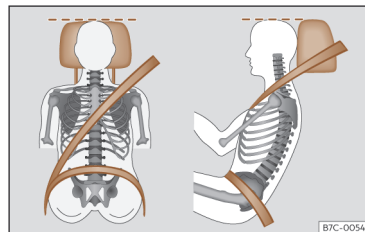

Fig. 37 Correct belt web and headrest positions
your head and under no circumstances below eye level¹⁾. Keep the back of your neck as close as possible to the headrest >>> **Fig. 37.**
- Adjust the seat lengthwise so that you can fully step on the pedals with your knees slightly bent and there is a distance between the knee area and the instrument panel of at least 10 cm (4 inches) >>> **Fig. 37.**